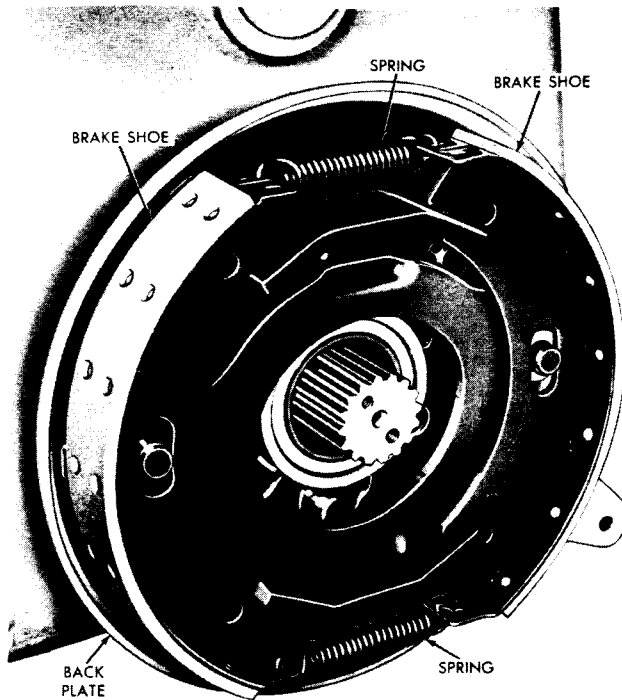

Fig. V-6. Parking brake components
(1) Remove brake drum, if required, from the output drive flange removed in 2a(1), above.
(2) Remove the brake return springs and brake shoe assemblies from the brake back plate (fig. V-6).